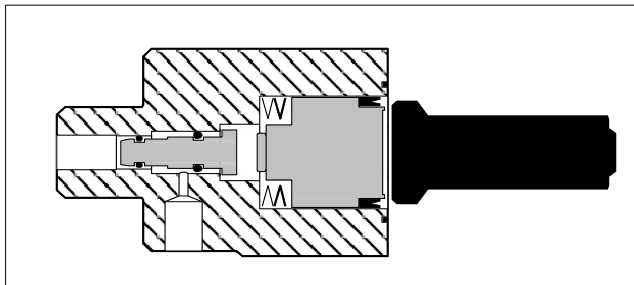

Figure 6 – Piston Installation
- Lubricate piston seal with Parker Super Lube or equivalent. Slide seal onto piston (orient seal correctly). Place piston spring stack on piston / pin holder assembly (orient as shown in "Assembly Section / Parts List"). Carefully slide the complete assembly into the valve body. Do not allow the springs to come off the assembly or they may not line up correctly. Using Piston Seal Installer Tool, push seal and piston assembly into body to clear base plate (See Figure 6).